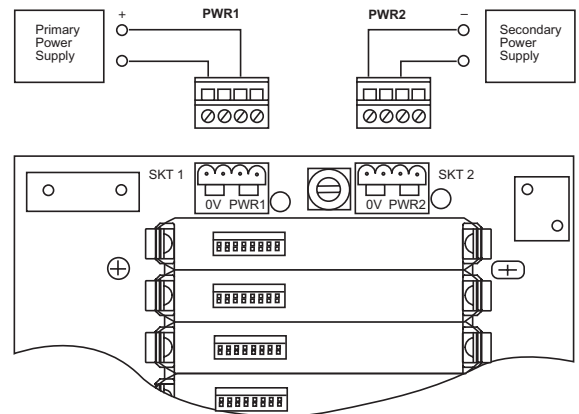

Figure 4.11: Power supply connections
- a) Connect each of the two 21V to 35V dc power supply connectors to the independent supply sources according to the terminal assignments shown in Figure 4.11. The maximum permissible wire size is 2.5mm² (14 AWG).